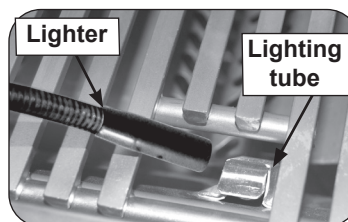
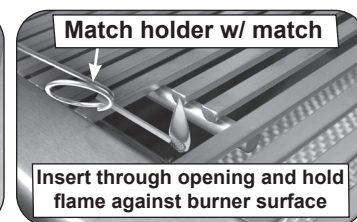

Fig. 27-2 Manual lighting via lighting tube
Fig. 27-3 Manual lighting via match holder
2. Insert either a burning long-barrel butane lighter or a burning long-stem match through the cooking grid opening to the top of the lighting tube (see Fig. 27-2). For backburners or infrared burners, hold the flame against the surface of the backburner/infrared burner. For side burners, hold the flame against the burner. Grills equipped with an infrared burner include a wire extension match holder (attached to drip tray) to assist with manual lighting (see Fig. 27-3).
4. If the burner does not light within five (5) seconds of turning the control knob, **immediately depress the knob and turn the valve to OFF**. **WAIT FIVE (5) MINUTES** before repeating steps 2 through 4 of the **MANUAL LIGHTING** instructions.